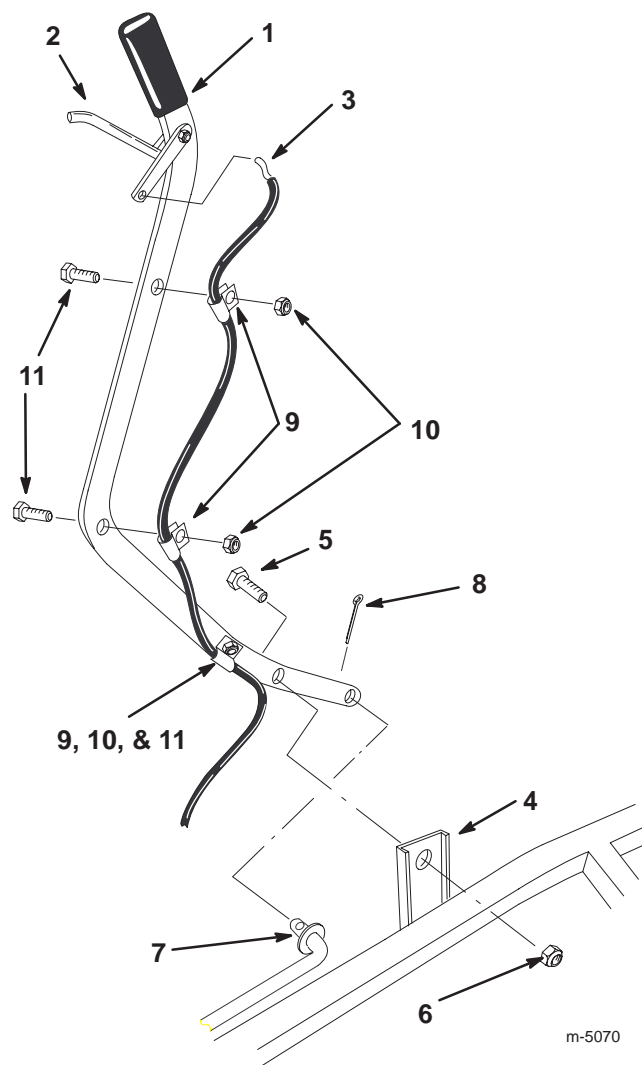

Figure 12
1. Attach the control handle to the pivot support using the 1/2-13 x 1 in. (25 mm) pivot bolt. Screw the bolt into the pivot support until the handle is snug and then back it off slightly to let the handle pivot freely (Fig. 12).
2. Install the 1/2 in. jam nut on the pivot bolt to lock it in place (Fig. 12).
3. Rotate the control handle to align the hole at the bottom of the handle with the control rod (Fig. 12).
4. Insert the control rod through the handle end and secure it with a large hairpin cotter (Fig. 12).
5. Connect the Z-fitting on the end of the cable to the release lever (Fig. 12).
12. Pull down on the cable jacket to remove slack and secure the cable to the handle using three cable clips, three 1/4 x 1 in. bolts, and three 1/4-20 in. locknuts (Fig. 12).
10. Remove the hairpin cotter and control rod from the control handle (Fig. 12).